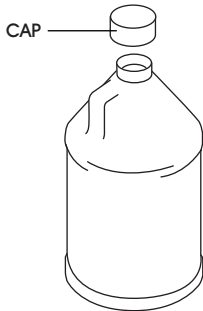

Figure 2
4. Seal jugs by threading caps onto openings with 17-26 in-lbs of torque. (See Figure 2)